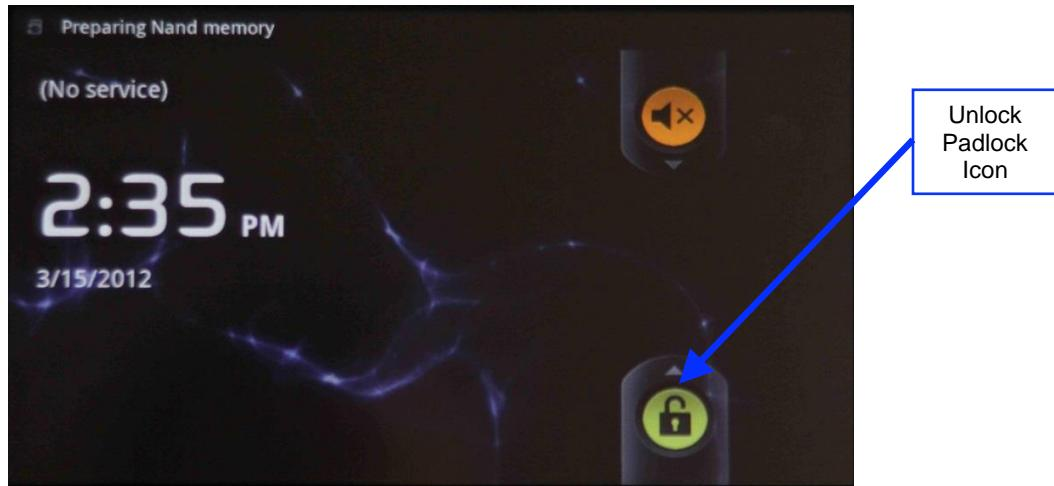

Figure 22: Tablet (v 1.1.2) Unlock Padlock Icon
- After the Fidelio touchscreen tablet has finished booting up, you will need to unlock the screen by using your finger on the unlock padlock icon and sliding the unlock padlock icon in the up direction on the touch screen (Figure 22).
- After the Fidelio touchscreen tablet has finished booting up, you will need to unlock the screen by using your finger on the unlock padlock icon and sliding up on the touch screen (Figure 22).